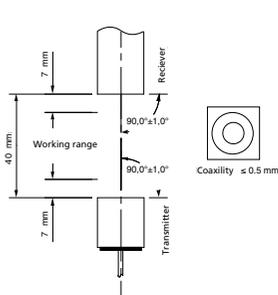

Fig. 4: Installation and working range
- ☞ Install the transmitter and receiver facing each other 40 mm ± 3 mm apart (see fig. 4). Installation of the dbk is not dependent on the position.